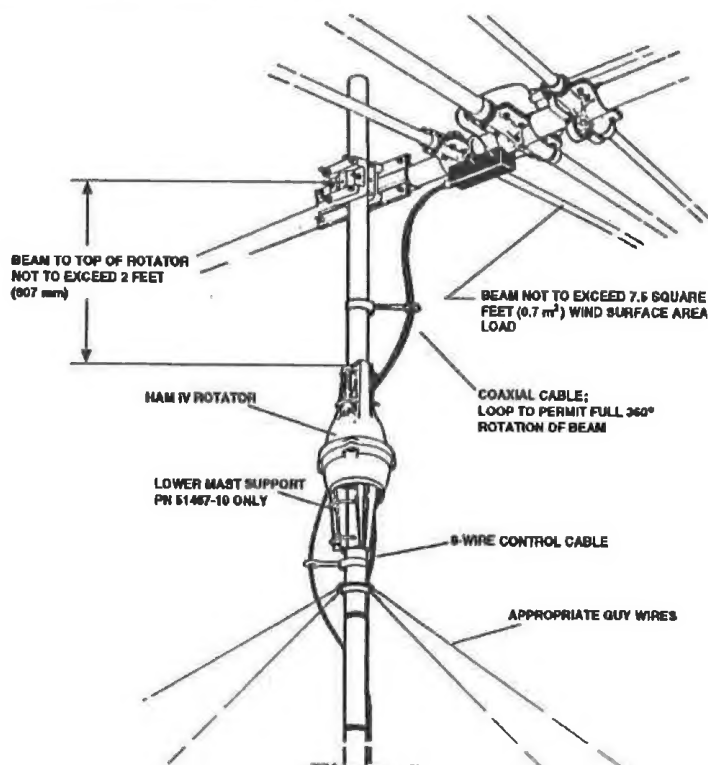

Figure 7
3. A telescoping or other type mast (see Figure 7) can also be used. This installation is similar to Number 2 above and requires the optional Heavy Duty Lower Mast Support Kit and must be derated to 10 square feet (.93 m²).